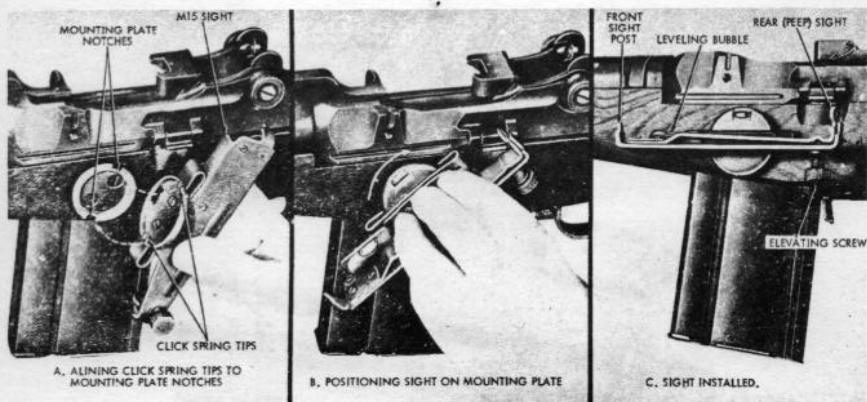

Figure 56. Installation of M15 grenade launcher sight.
a. Installation. Install the sight to the mounting plate, aligning notches of the plate with the click spring tips of the sight (fig. 56). Turn sight clockwise until the index line is aligned with the 0° index on the mounting plate. At this position, the leveling bubble should be level. If the bubble cannot be leveled, the rifle should be turned in to the unit armorer.
b. Removal. Turn sight counterclockwise until the tips of the clip springs are aligned with the notches in the mounting plate; remove the sight from the mounting plate (fig. 56). When not in use, retain the sight in its carrying case.